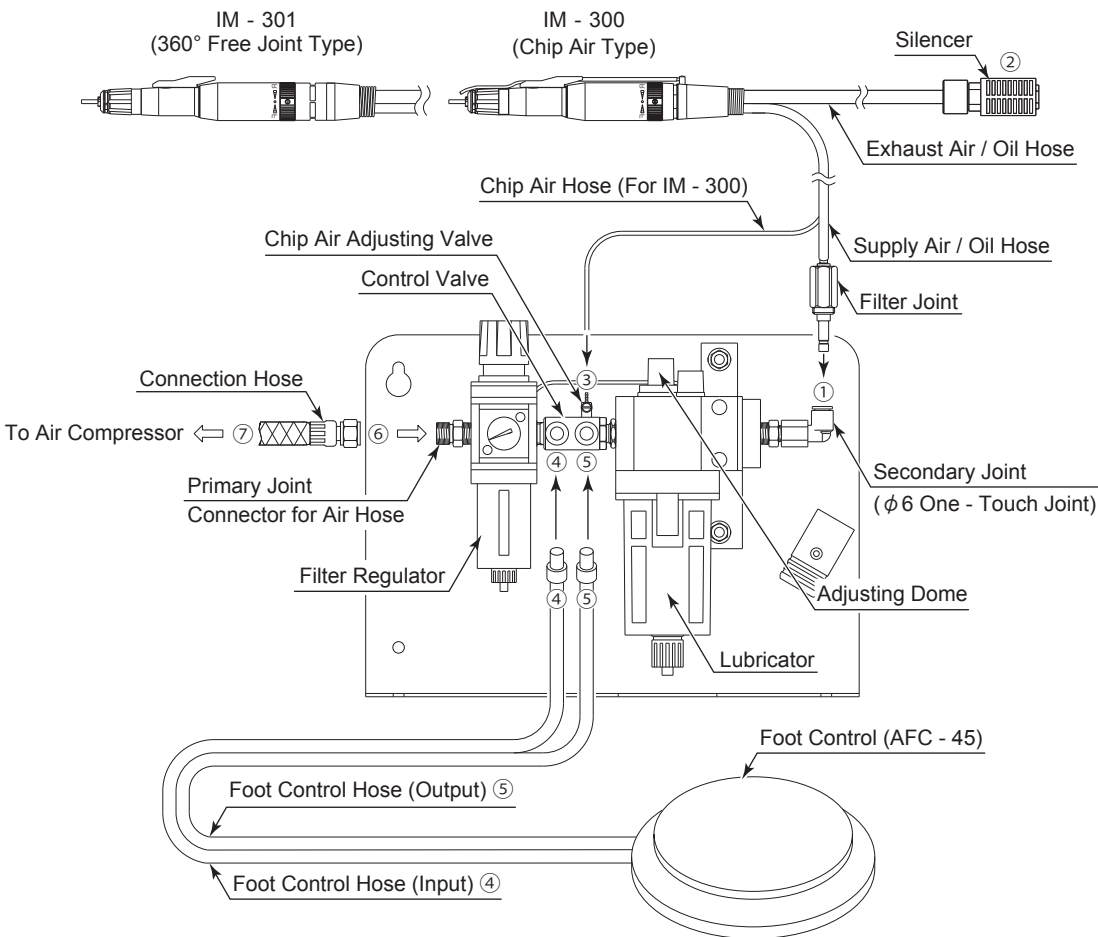

Fig. 4 Connection of Air Line Kit " AL - H1207F (Sold Separately) "
- (1) Connect the Filter Joint of the Air Motor to the Secondary Joint (φ 6 One - Touch Joint) on the Air Line Kit. (Fig. 4 ①)
- (2) Place " Exhaust Air Silencer / Oil Hose " into an empty container (Fig. 4 ②). (Exhaust outlet air and oil from the Silencer.)
- * If using the ROTUS Air Motor " IM - 300 ", insert the Chip Air Hose to the Chip Air Adjusting Valve on the Control Valve (Fig. 4 ③).
- (1) Insert the Foot Control Hose (Input) ④ to the One - Touch Joint ④ of the Control Valve (Fig. 4).
- (2) Insert the Foot Control Hose (Output) ⑤ to the One - Touch Joint ⑤ of the Control Valve (Fig. 4).
- (1) Connect the Connection Hose (Air Line Kit's Standard Accessory) to the Primary Joint of the Air Line Kit.
(Fig. 4 ⑥)
- (2) Connect the other side of the Connection Hose (Air Line Kit's Standard Accessory) to the compressor.
(Fig. 4 ⑦)